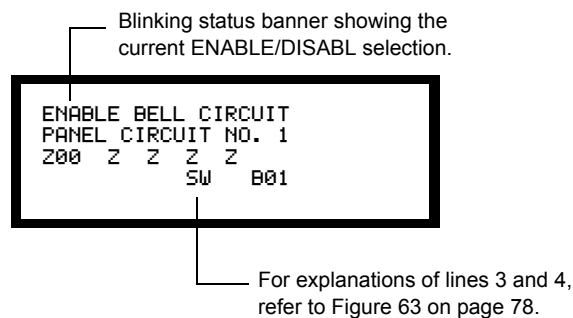

Figure 87 Sample Edit Screen for Disabling or Enabling a Point
2. Enter the type of point to be disabled or enabled (* for detectors, # for modules, or * and # for panel circuits), enter the two-digit SLC address of the point or the panel circuit number; then press the ENTER key. The control panel displays an edit screen for the point. For example, Figure 87 shows an edit screen for the NAC at address B01.